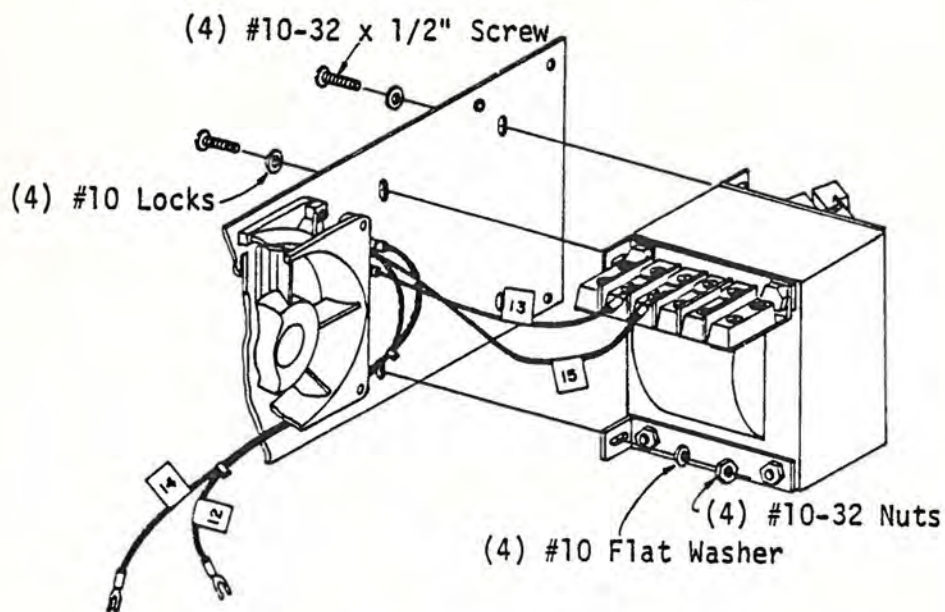

Figure 5-62 Mounting Transformer to Back Panel
1. Mount the transformer on the back panel as shown in Figure 5-62. Secure to the back panel with the four (4) #10-32 x 1/2 inch screws, four (4) nuts, four (4) flat washers and four (4) #10 lockwashers.
To secure the transformer to the back panel, turn the transformer on its side and place the back panel on top of it. Insert the screws and nuts as illustrated in Figure 5-62. Do not tighten the screws; positioning adjustments will be necessary later.